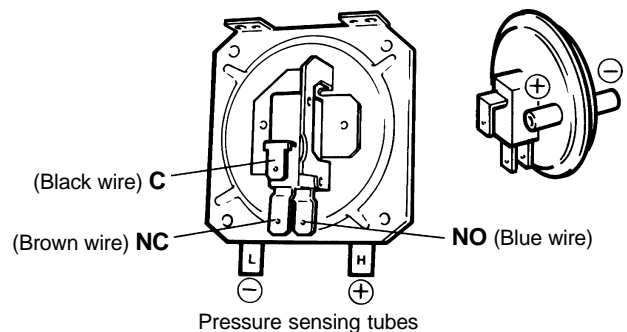

Fig. 21
8.8 AIR PRESSURE SWITCH - Fig. 21
4. Connect the wiring to the new switch, black to C, brown to NC, blue to NO and reconnect the pressure tubes (see Fig. 21).